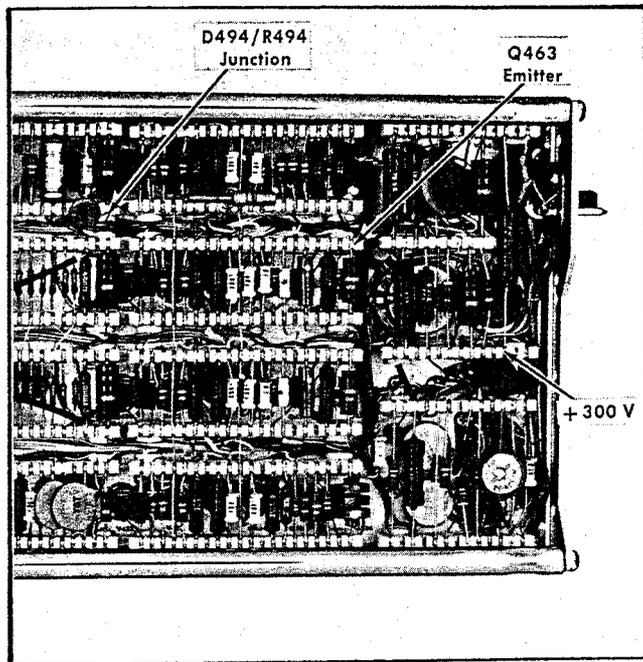

Fig. 7-1. Right side view, rear portion of the Type 3A74, showing the location of the test points.
- a. Connect a DC voltmeter between the D494/R494 junction (see Fig. 7-1) and ground.
- a. Connect a binding post adapter (item 12) to the channel 1 input connector.
- d. Connect a 24-inch (approx.) jumper lead with insulated test prods between the +300 volt test point (see Fig. 7-1) and the channel 1 Input connector center conductor.
- b. Connect a coaxial cable with BNC connectors on each end (item 4) between the Calibrator output connector and the channel 1 connectors. (Use a coaxial connector adapter, item 13, to complete the connections if required.)
- g. Connect the probe from a test oscilloscope (item 4) to the emitter of Q463 (see Fig. 7-1).